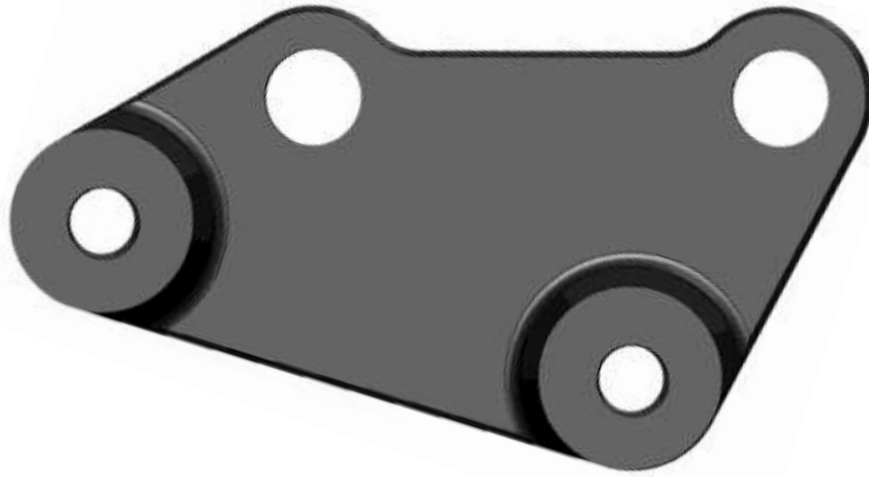

Figure 41
6. Locate the Dual Idler Bracket (#61) and the bolt removed from *Step 7*, as well as the (1) one top bolt removed in *Step 6*. Secure the Dual Idler Bracket to the engine with the (2) two bolts as shown below. Torque the bolts to **51-58 ft-lbs**. *Figure 41*.